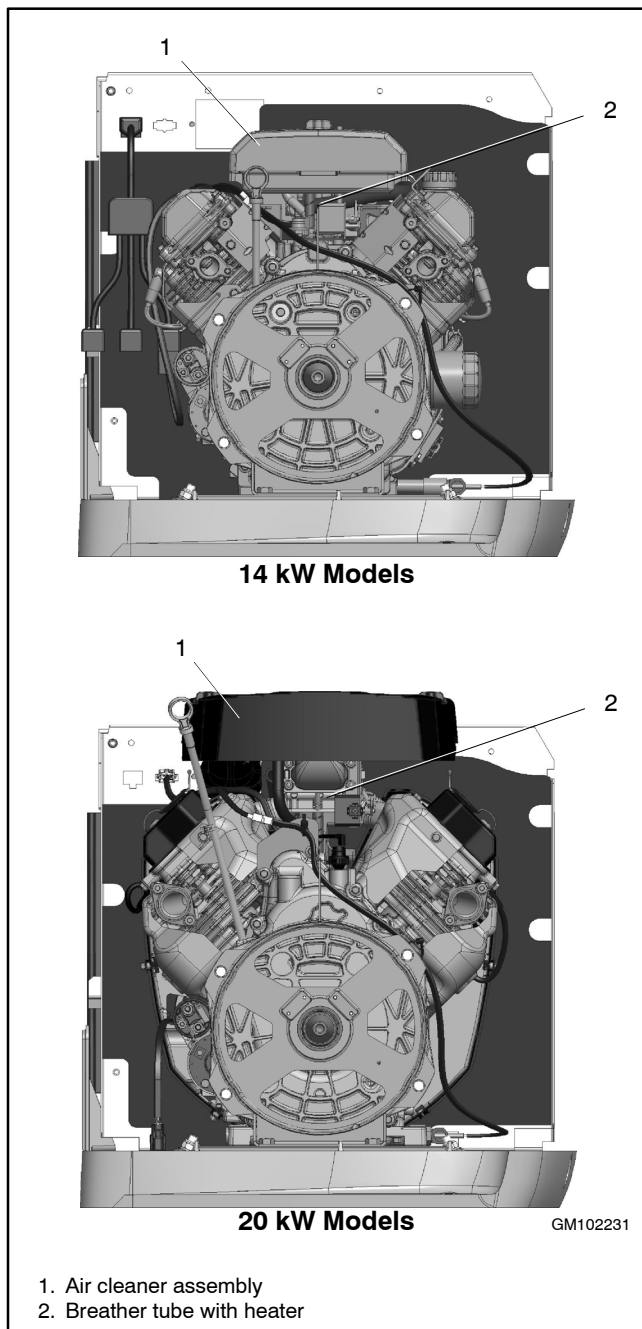

Figure 12 Breather Tube Heater Location
10. Disconnect the breather tube from the air cleaner base. See Figure 12.
11. Start wrapping the heating element for the breather tube (GM101479, GM101480, GM101481, or GM101482) at the engine and work upward to the underside of the air cleaner housing. See Figure 12.